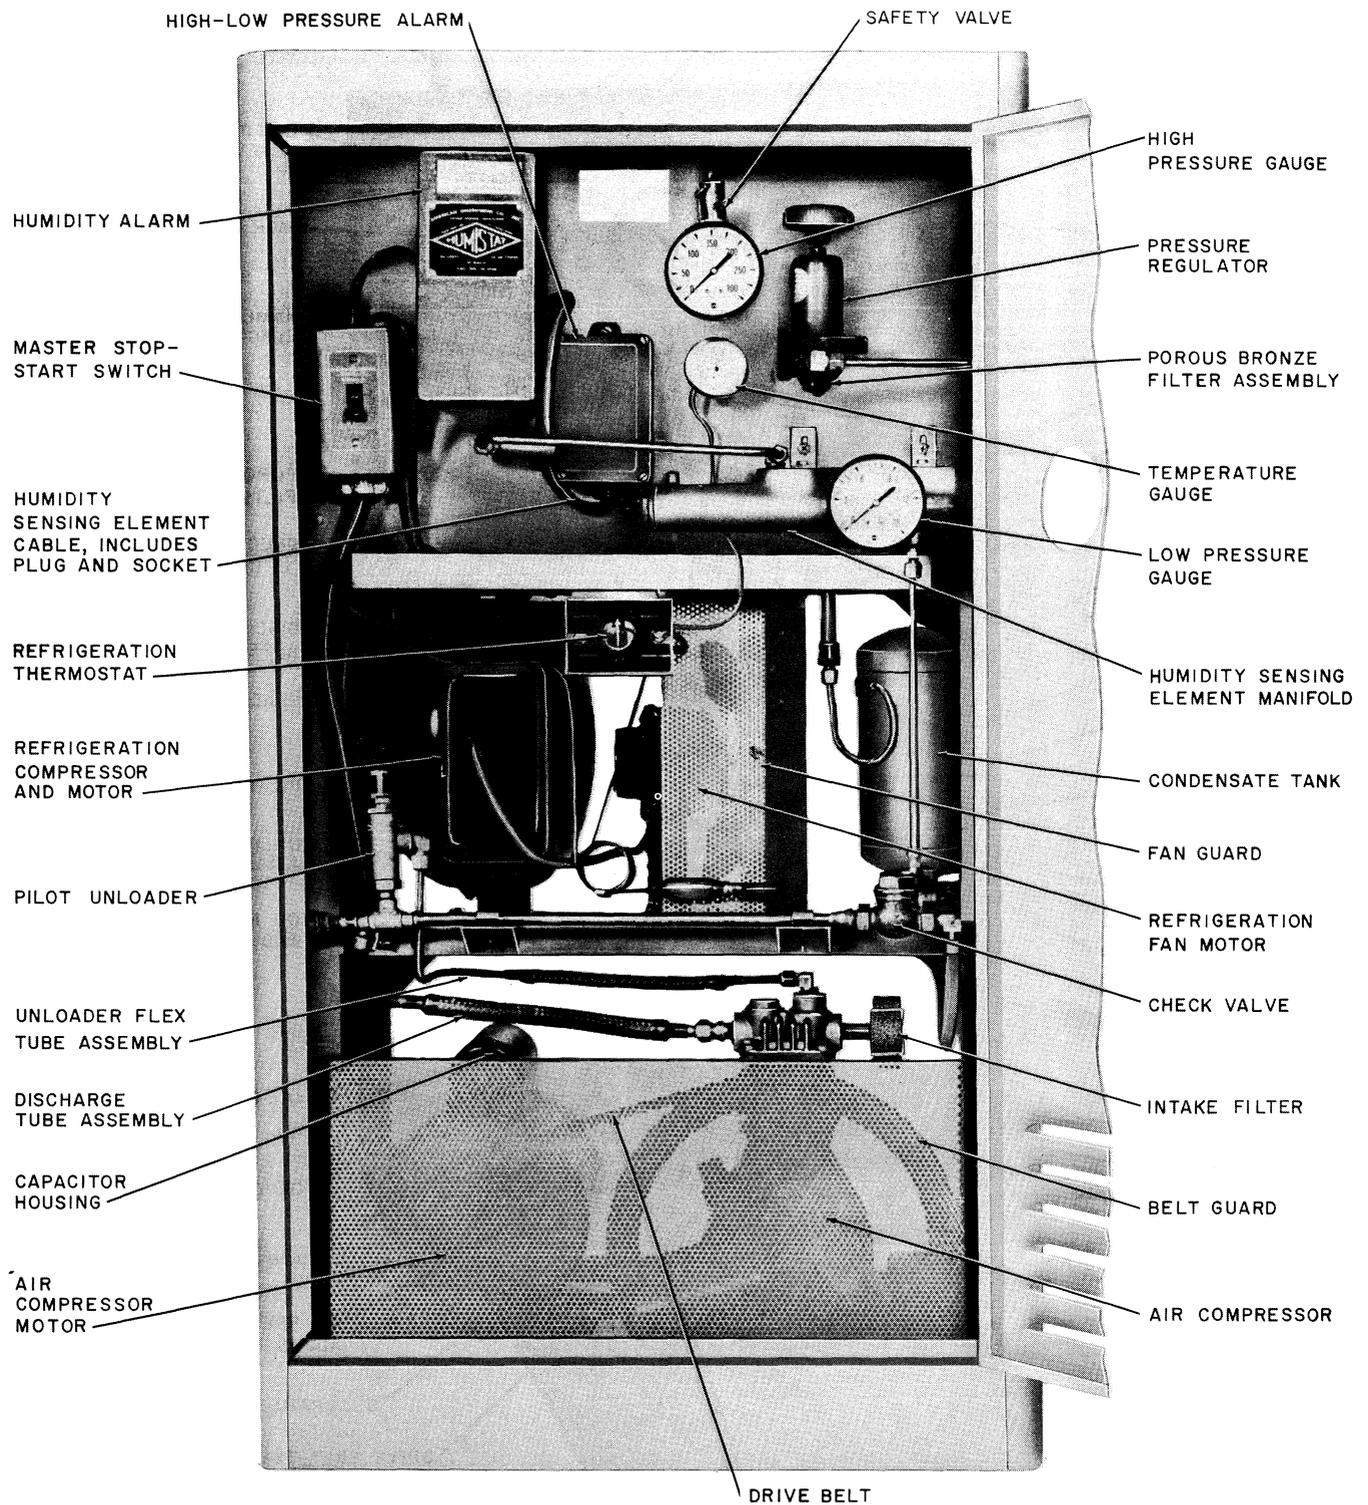

Fig. 1—KS-16432 L1 Air Dryers With Serial Numbers Below 3000—Interior View
1.04 L1 Dryers with serial numbers 3000 and up and all L2 Dryers have identical cabinets and chassis. L1 Dryers with serial numbers below 3000 are of an earlier design and differ in various components and arrangements described as follows and elsewhere in the text of this section. The cabinets contain the following equipment (Fig. 1 through 3):
(a) **L1 Dryers only:** A check valve between the air compressor and condensation tank (Fig. 1 and 4).
- (e) The air compressor drive belt and refrigeration fan are provided with guards (Fig. 1).
- (f) An adjustable high-low pressure alarm (Fig. 1, 3, and 4) operates when pressure from the pressure regulator is outside required limits.
- (g) Humidity alarm (Fig. 1, 3, and 4) operates if humidity becomes too high, humidity alarm electron tube fails, or dryer power is cut off.